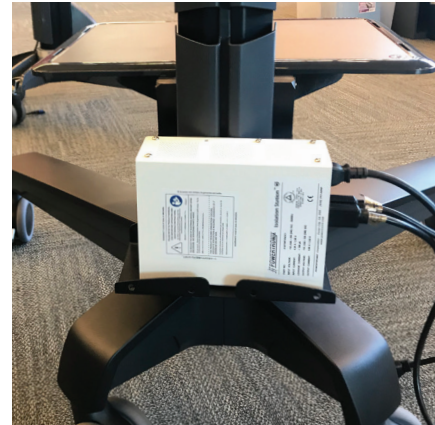

Figure 13 – Isolation transformer mounted to the rear of the cart. An additional Velcro strap is provided to secure the device to the cart.
- Step 15** Mount and connect the isolation transformer, as shown in figure 13.